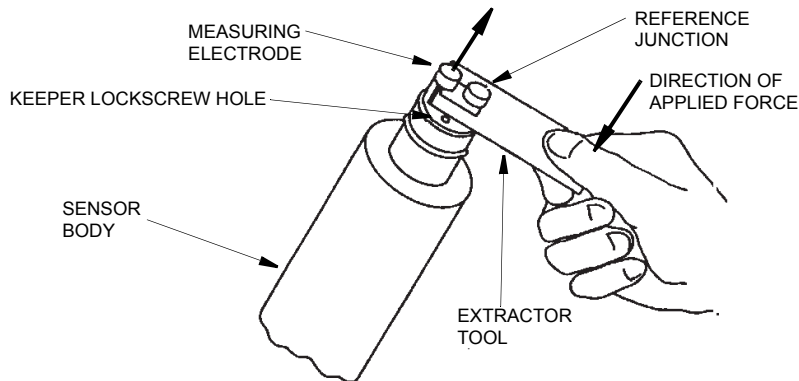

Figure 14. Removing Measuring Electrode
4. Slide the extractor tool (beveled edges up) into position as shown in Figure 14. Note that the edges fit into the electrode retaining slot.